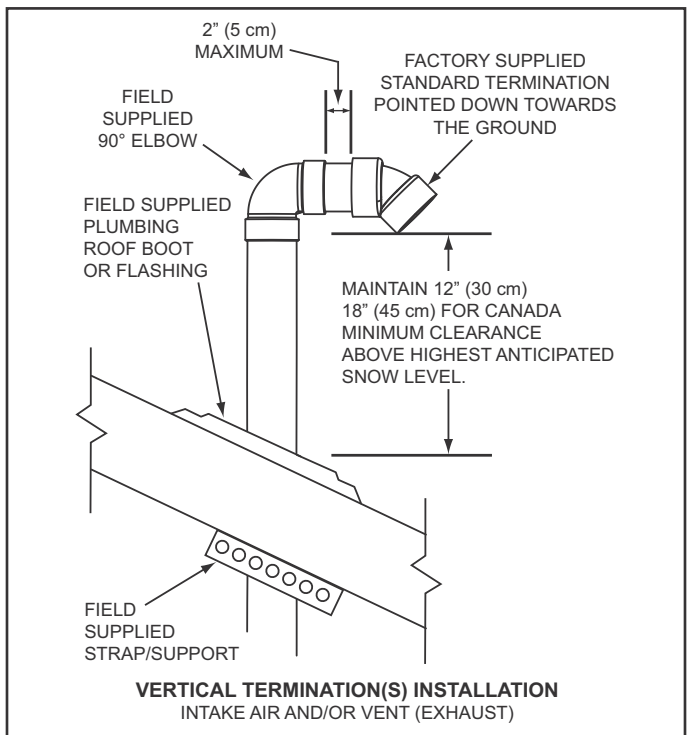
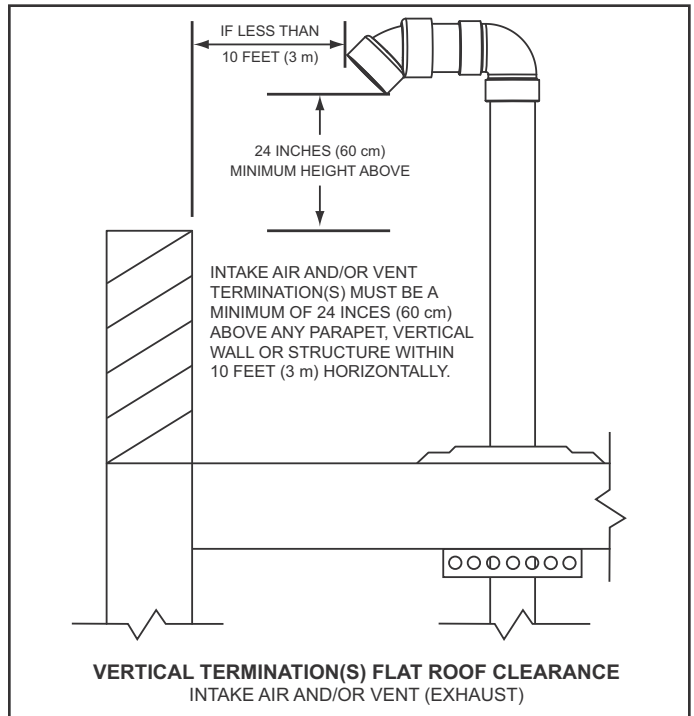
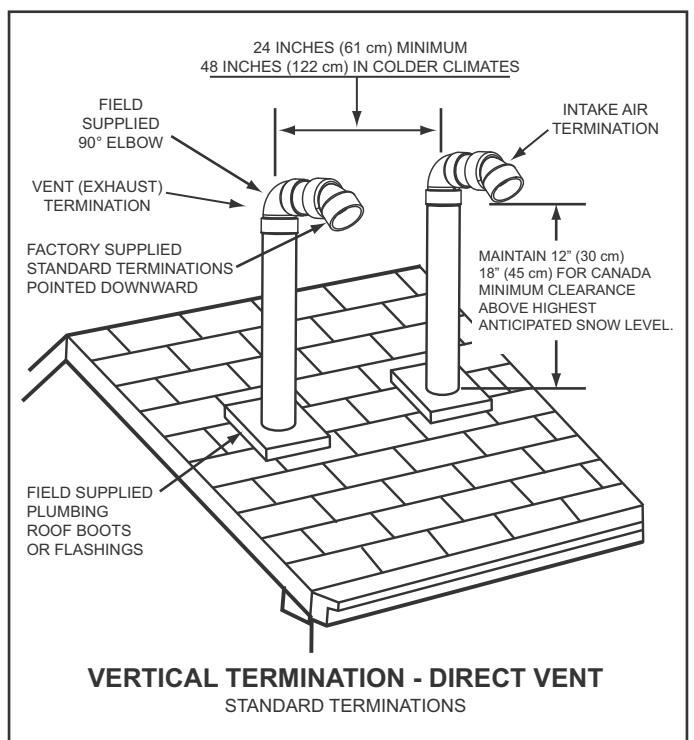

Figure 19
Figure 20
Figure 21
- If installing only the vent (exhaust) piping in a Power Vent configuration vertically through the roof; ensure that all exterior vertical clearance requirements shown in Figure 19 and Figure 20 on page 25 are being maintained. These clearances and those cited by local and national codes must be maintained.
**NOTE:** On flat roof installations the vent termination must be a minimum of 24 inches (60 cm) above any parapet, vertical wall or structure within 10 feet (3 m) horizontally. See Figure 20 on page 25.
- If installing both intake air and vent piping in a Direct Vent configuration vertically through the roof; ensure that all exterior vertical clearance requirements shown in Figure 19 and Figure 20 on page 25 are being maintained. These clearances and those cited by local and national codes must be maintained.
**NOTE:** On flat roof installations the intake air and the vent terminations must be a minimum of 24 inches (60 cm) above any parapet, vertical wall or structure within 10 feet (3 m) horizontally. See Figure 20 on page 25.
The vent termination must be oriented facing downward as shown in Figure 19 and Figure 20 on page 25.
The bottom edge of the vent termination must be a minimum of 12 inches (30 cm), 18 inches (45 cm) in Canada, above the average or expected snow level as shown in Figure 19 on page 25.
The intake air and vent pipes must penetrate the same side of the roof as shown in Figure 21 on page 25.
The intake air and vent terminations must be oriented facing downward and in the same direction as shown in Figure 21 on page 25.
The intake air and vent terminations must have a minimum separation of 24" (61 cm) measured on center line as shown in Figure 21 on page 25. In colder climates this separation should be increased to at least 48 inches (122 cm).
The bottom edge of the intake air and vent terminations must be a minimum of 12 inches (30 cm), 18 inches (45 cm) in Canada, above the average or expected snow level as shown in Figure 19 and Figure 21 on page 25.
The distance between the closest vent and intake air terminations must be a minimum of 24 inches (61 cm) as shown in Figure 21. In colder climates this separation should be increased to at least 48 inches (122 cm).
- Suspend the pipe(s) through center of hole using field supplied metal strapping or equivalent support materials as shown in Figure 19.
- Slide a roof boot or equivalent flashing over the pipe and secure roof boot or equivalent flashing to roof (see Figure 19) and seal around the flashing.
- Install the factory supplied intake air and/or vent termination(s) using field supplied pipe and one field supplied 90° elbow as shown in Figure 19. The short section of pipe that connects between the field supplied 90° elbow and the factory supplied termination must not be excessive in length. The exposed portion of this pipe shall be no more than 2 inches (5 cm), see Figure 19.